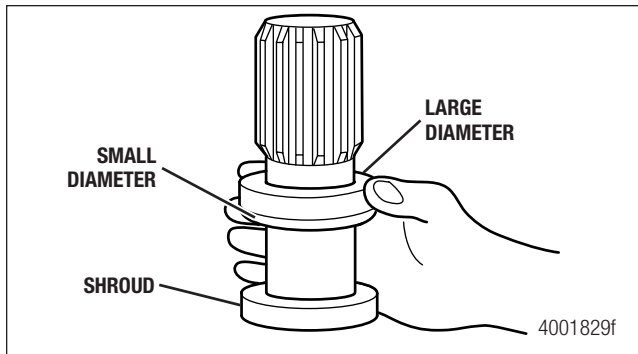

Figure 6.9
2. Install the new seal onto the spline shaft neck. Ensure that the small diameter side fits onto the splines first. Figure 6.9.